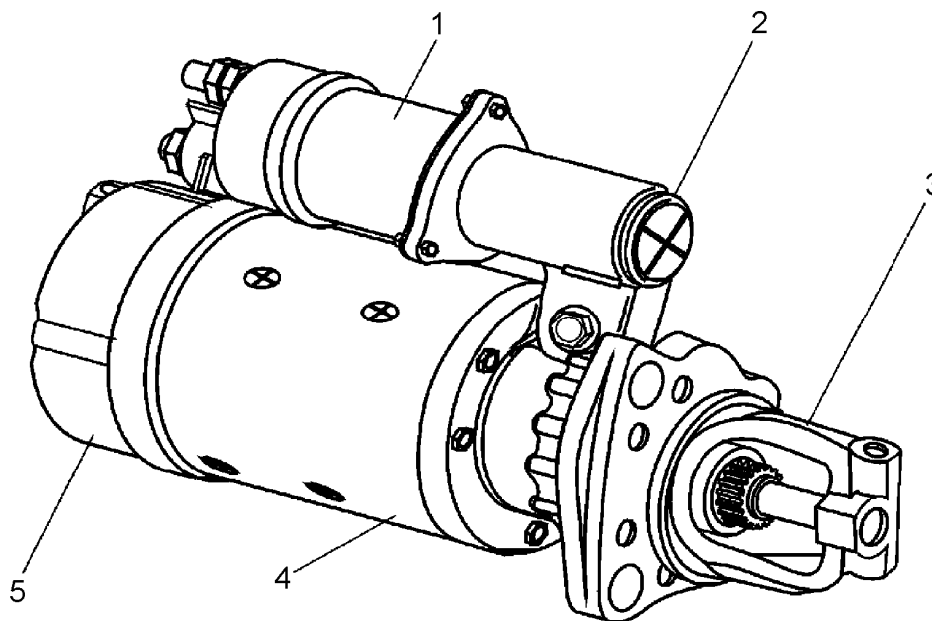

Fig. 8.12. View of Cranking Motor
Heavy duty cranking motors have a shift lever in lever housing (2, Fig. 8.12) and plunger in solenoid (1) that are totally enclosed to protect them from exposure to dirt, icing conditions and splash. The nose housing (3) can be rotated to obtain a number of different solenoid (1) positions with respect to the mounting flange.